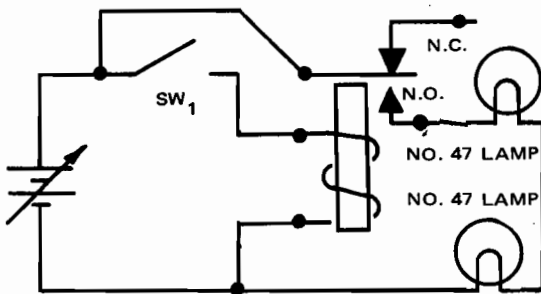

Fig. 6-4-3
13. With ohmmeter of VOM, test state change of relay switch terminals between energized and nonenergized conditions of operation. If relay is functioning properly, add lamp control circuit as in Fig. 6-4-3. If not, ask your instructor for help.